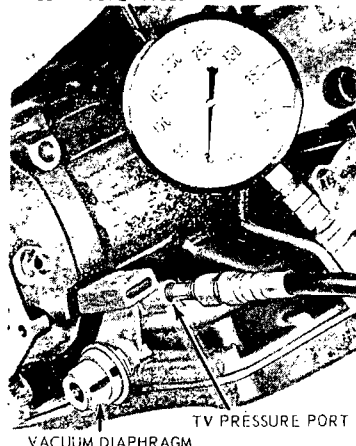

FIG. 6—Vacuum Diaphragm and Control and TV Pressure Connecting Points—C6 Transmission
2. Attach a pressure gauge to the control pressure outlet at the transmission (Fig. 6).